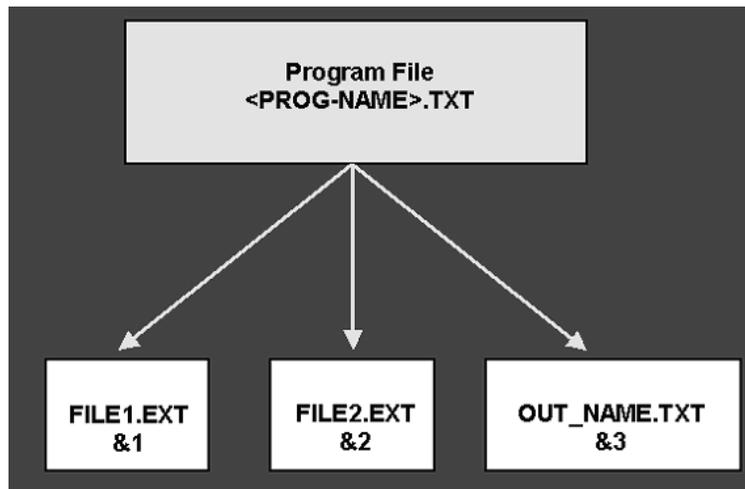

Figure 3-1 Program File
- 5 You should see the contents of the OUT_NAME.TXT file as in Fig. 3-1.